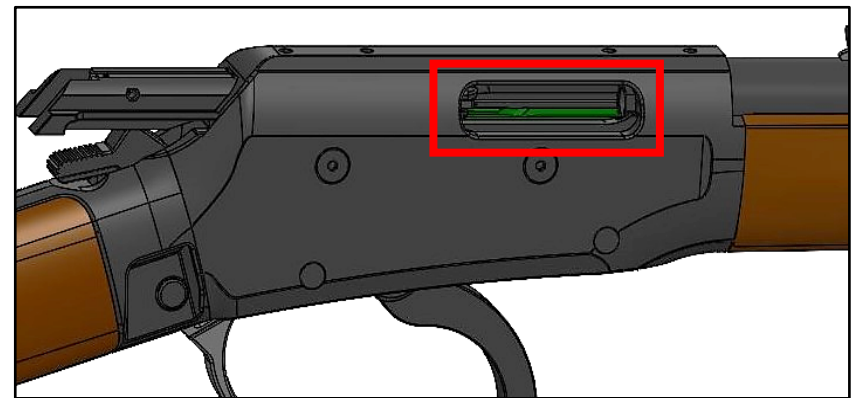

FIGURE 16
7. Visibly check the top of the chamber and feed block/loading port to ensure that there is no ammunition lodged inside FIGURE 16.